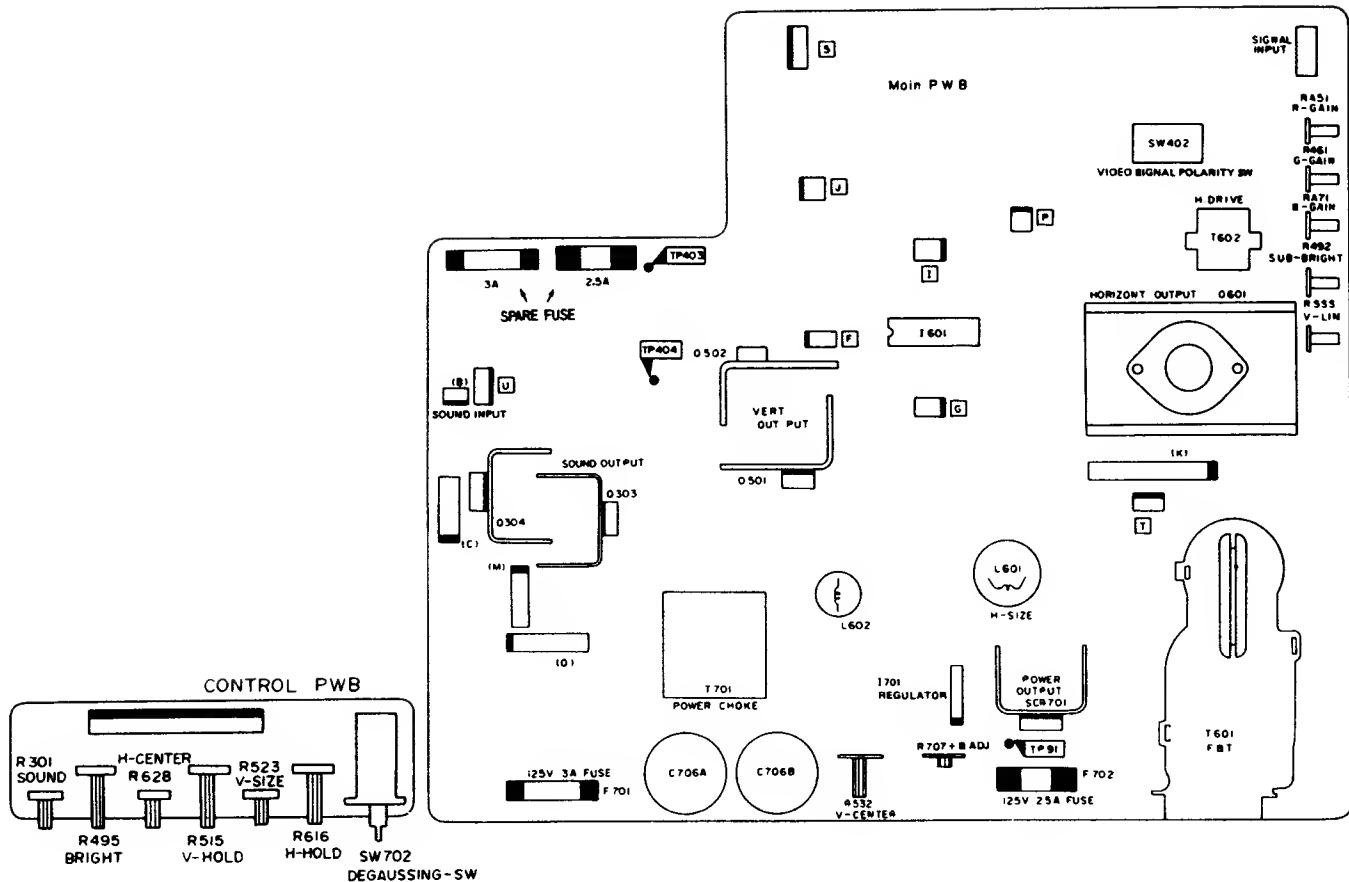
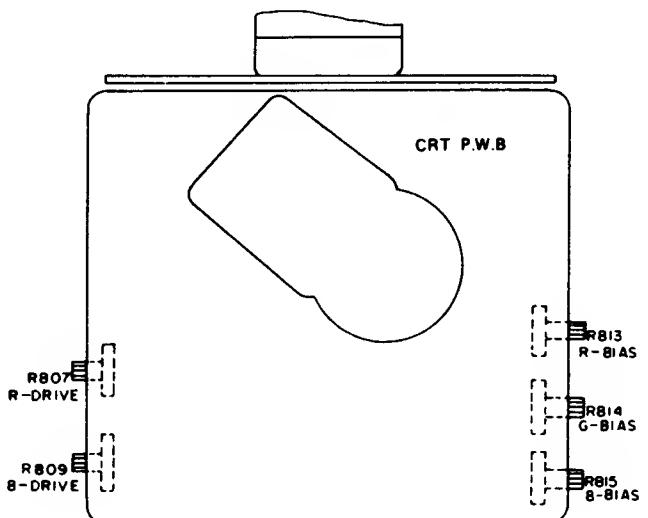

Figure 3 Adjustable Controls and Test Points on Main Chassis PCB and Control PCB
Figure 5 Adjustable Controls on Picture Tube Socket PCB
color or brightness, and whenever the purity and convergence is adjusted. (See Figure 3 for the location of the Screen and Brightness controls and Figure 5 for the Bias and Drive controls.)
The Horizontal Centering control should be adjusted if the picture is not centered on the screen, as indicated by a black area at either the left or the right edge. Figure 3 shows the location of the H-CENT control R628 on the Control PCB. Adjust this control until a normal screen image is obtained.
The Vertical Hold control should be adjusted if the picture drifts straight up or down on the screen. Figure 3 shows the
The Vertical Size control should be adjusted if the screen image is either not filling the screen vertically, or if it is overscanning the screen vertically. Figure 3 shows the location of V-SIZE control R523 on the Control PCB.
The Horizontal Width coil should be adjusted if the screen image is either too wide or narrow. Figure 3 shows the location of HORIZ WIDTH coil L601 on the Main Chassis PCB.
The Focus control should be adjusted if the screen image is not sharply defined. The Focus control is attached to the top of the horizontal-output transformer as shown in Figure 3. Turn this control until you get optimum screen sharpness.
The Horizontal Hold control should be adjusted if the picture is drifting sideways across the screen. Figure 3 shows the location of H-HOLD control R616 on the Control PCB. Adjust this control until the black lines no longer slant downward or upward and you get a normal screen image.
- c. Adjust the Screen control for a dimly-lighted screen. This control is attached to the horizontal-output transformer as shown in Figure 3.
- a. Turn off the green and blue guns of the CRT by rotating the G-BIAS R814 and B-BIAS R815 controls to the fully counterclockwise position. (See Figure 5 for the location of the Bias adjustments.)